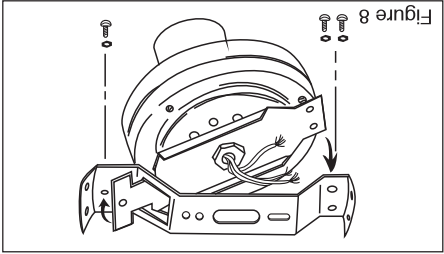

Figure 8
Step 1 Use the square hole at one end of the supporting bar to hang fan on the hook of the hanger (Figure 8). Connect wire according to wiring instruction (Figure 5 and 9).